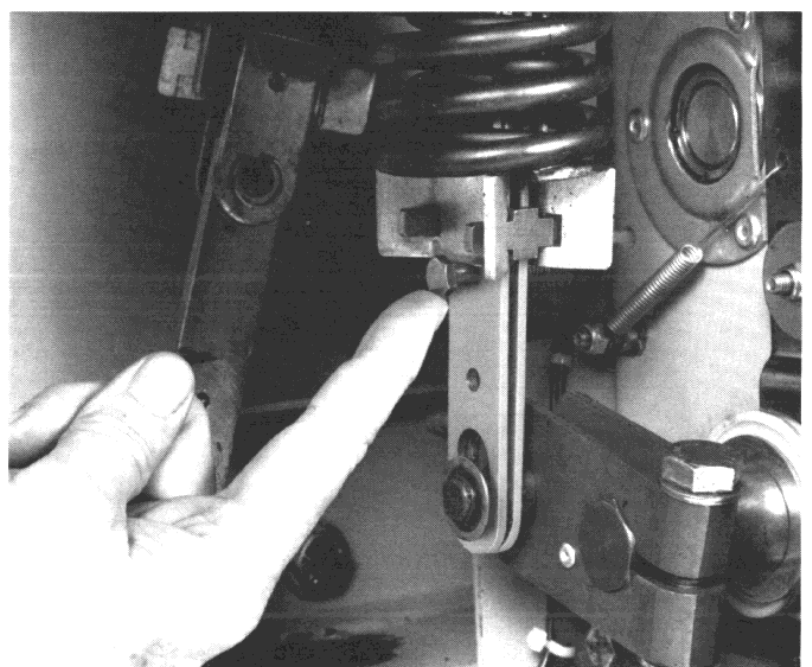

Figure 11: Blocking of Closing Springs
4. Observe the closing springs (figure 11). Stop charging *just before* a pin can be placed through the second hole in the spring guide.
5. While continuing to put slight pressure on the charging handle, insert a 3/16" diameter pin or bolt in the hole (figure 11). Do this on both closing springs.